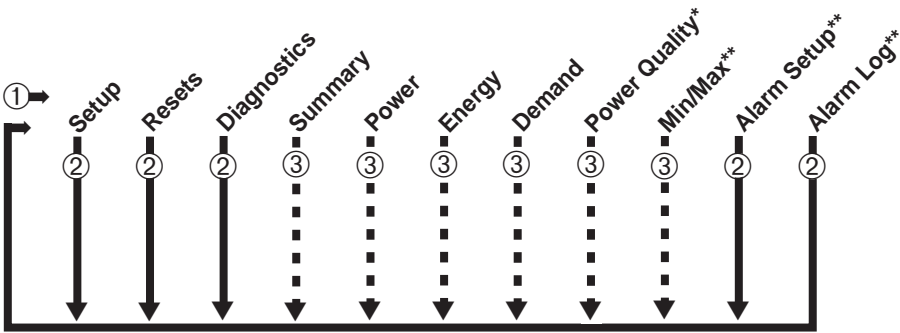

Figure 7-1: Navigating power meter parameters
To access a mode, refer to figure 7-1 while following these steps:
- 1. Press the *Mode* button until the desired mode appears (①, figure 7-1).
- 3. For Setup, Resets, Diagnostics, Alarm Log**, or Alarm Setup** modes, press the *Select* button to select a field (②), and move through screens in that mode.